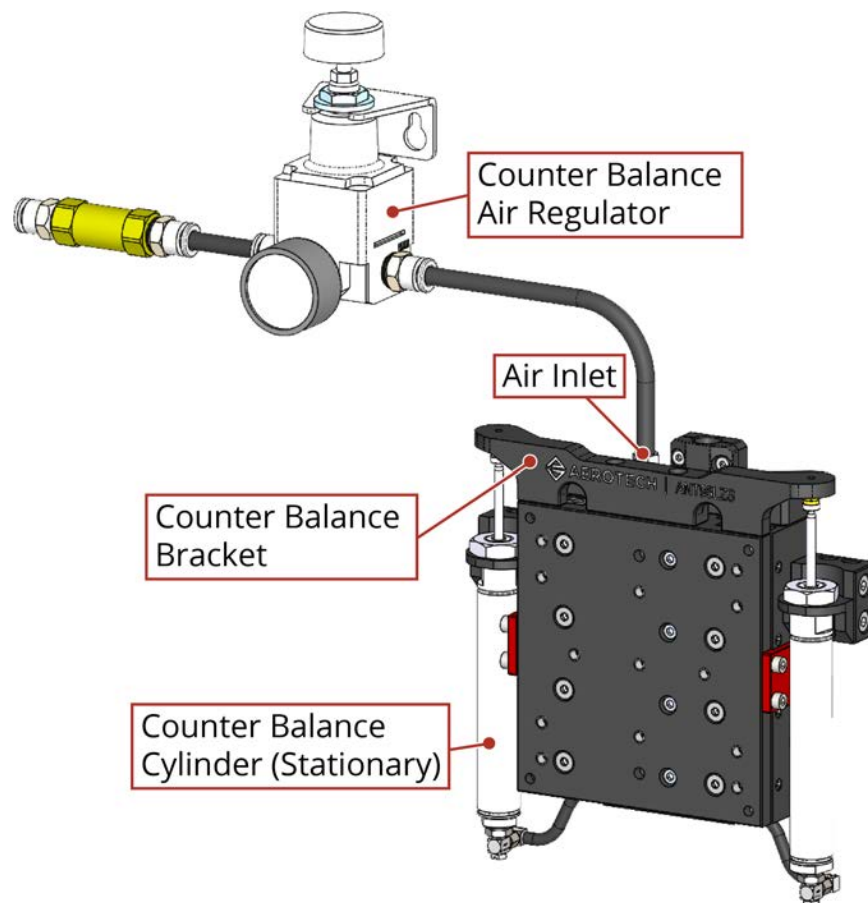

Figure 1-2: Air Inlet Location
- a. The tabletop should still be hanging from the loose shipping brackets. If the tabletop starts to slowly rise, gradually lower the air supply pressure using the stage regulator knob (refer to Figure 1-2) until the carriage hangs from the shipping brackets. Counterclockwise rotation of the knob decreases the pressure to the counterbalance cylinder.